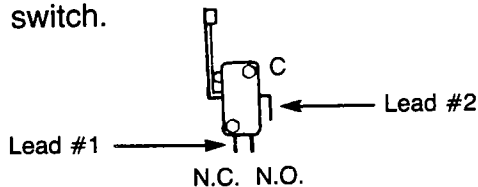

FIGURE 1
c. Connect ohm meter to bin switch terminals as shown in figure 1 to read through bin switch.